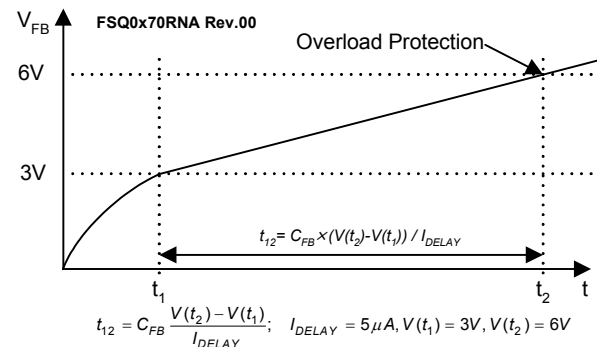

Figure 15. Overload Protection (OLP)
4.1 Overload Protection (OLP): Overload is defined as the load current exceeding a pre-set level due to an unexpected event. In this situation, the protection circuit should be activated to protect the SMPS. However, even when the SMPS is operating normally, the OLP circuit can be activated during the load transition. To avoid this undesired operation, the OLP circuit is designed to be activated after a specified time to determine whether it is a transient situation or a true overload situation. In conjunction with the I_{PK} current limit pin (if used), the current mode feedback path limits the current in the SenseFET when the maximum PWM duty cycle is attained. If the output consumes more than this maximum power, the output voltage (V_O) decreases below nominal voltage. This reduces the current through the opto-coupler LED, which also reduces the opto-coupler transistor current, thus increasing the feedback voltage (V_{FB}). If V_{FB} exceeds 3V, the feedback input diode is blocked and the 5µA current source (I_{DELAY}) starts to slowly charge C_{FB} up to V_{CC} . In this condition, V_{FB} increases until it reaches 6V, when the switching operation is terminated, as shown in Figure 15. The shutdown delay time is the time required to charge C_{FB} from 3V to 6V with 5µA current source.